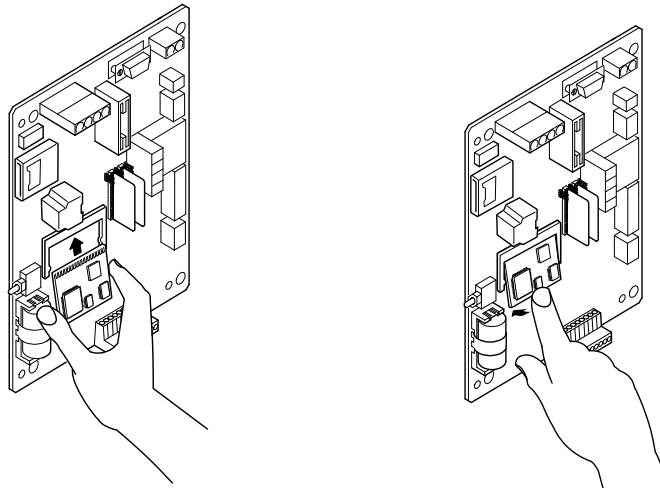

Figure 4 Engine Card Replacement
- 9) On the replacement board, grasp the engine card between the thumb and fore finger and at approximately 20 – 30 degrees (see Figure 4), carefully slide the card up into the engine card connector until the gold contacts disappear into the connector.